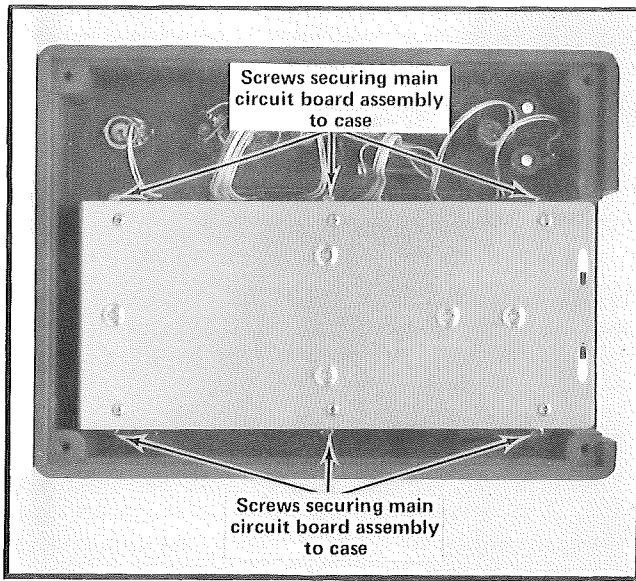

Fig. 4-1. Screws holding chassis-circuit board assembly to case.
3. Remove the six machine screws through the edge of the main circuit board. See Fig. 4-1.